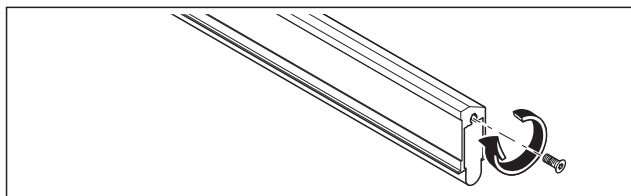

Fig. 12 Fix the sealing element with screws on the drop-down seal's profile
2. Fix the sealing element in the drop-down seal's profile on each side with a screw (Fig. 12).